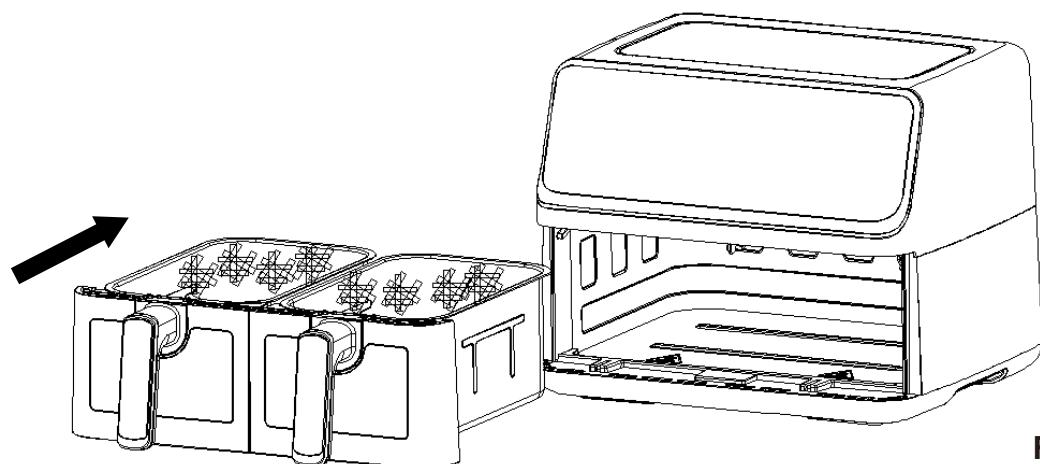

Fig.7
5. Slide the pot back into the air fryer (Fig. 7).